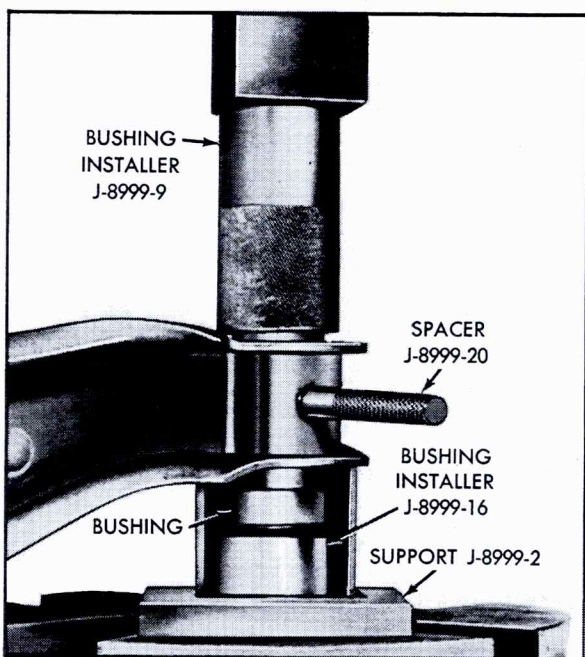

Fig. 3-24 Installing Bushing In Lower Arm
4. Place Bushing Installer, J-8999-16, on Support, J-8999-2, Fig. 3-24.